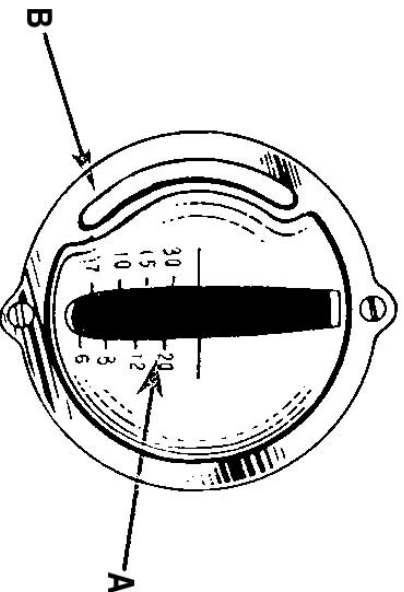

Fig. 12
With the needle raised and the threads drawn back at least 4 inches through the toes of the presser foot, place the material to be sewn beneath the toes of the presser foot and lower the presser foot lift lever. Turn the hand wheel toward you until the needle enters the material. Regulate the desired stitch length (Fig. 12) and start sewing.
Loosen the stitch length stop control (B, Fig. 12) and move it to the bottom of the slot. Move the stitch length lever (A, Fig. 12) to the desired stitch length. Now, move the stop control up until the control plate (visible in the stitch length slot) touches the bottom of the stitch length lever. Tighten the thumb screw (B) with finger pressure only. At this point, the stitch length is “marked,” and you can move the lever up to sew in reverse at approximately the same stitch length, and then return it to your desired forward length.